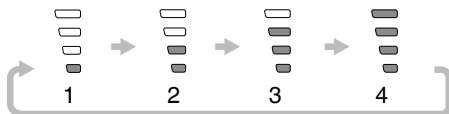

Fig. 22
- (1) High / Low mode selector switch (Fig. 22)